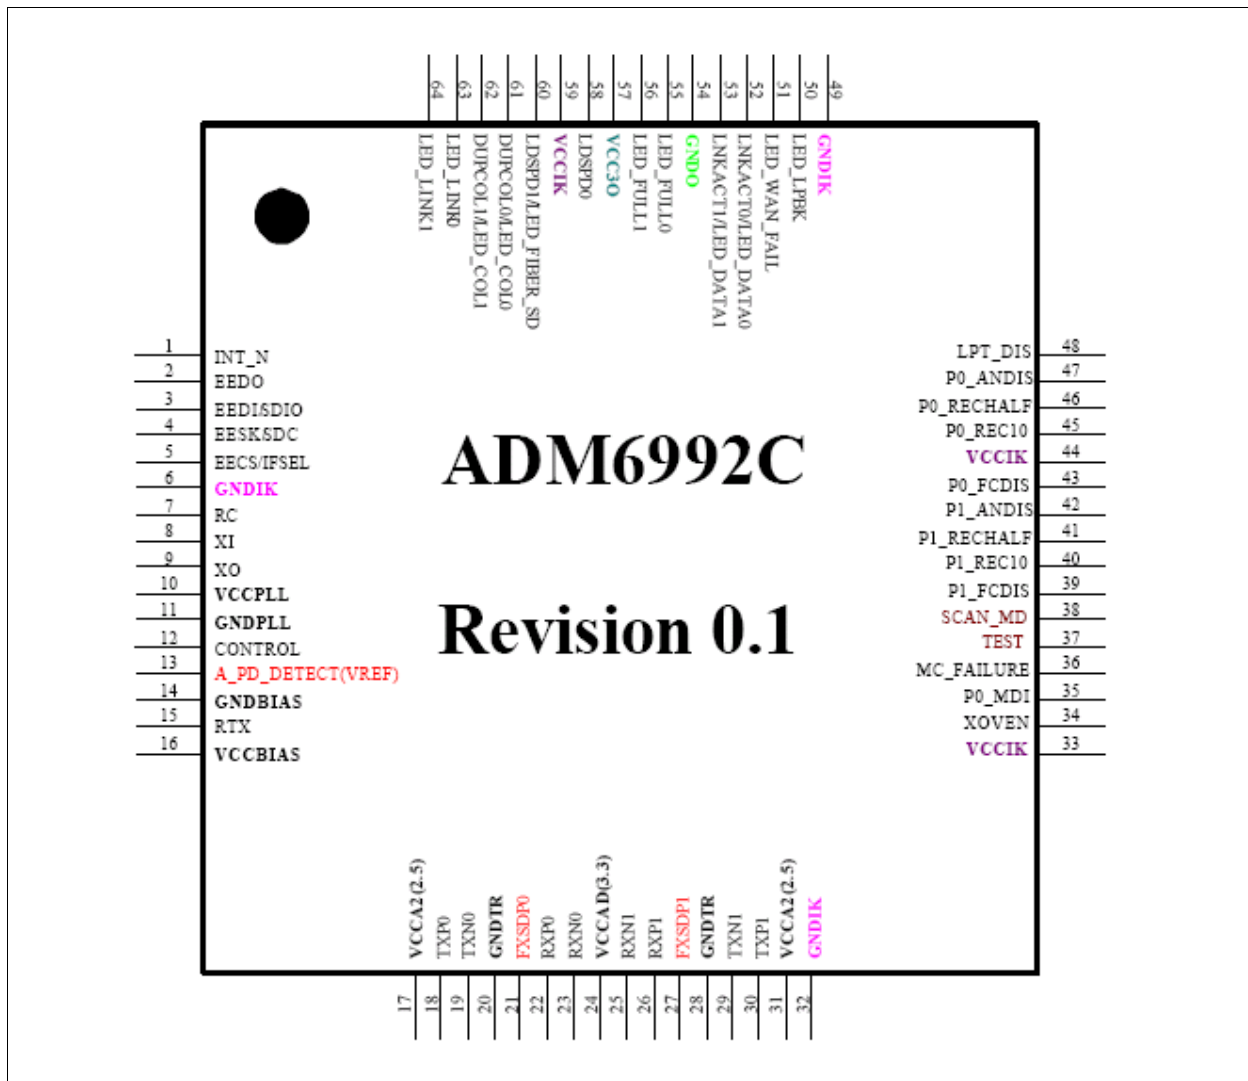

Figure 2 NINJA C/CX (ADM6992C/CX) 64-Pin Assignment
- Figure 2 NINJA C/CX (ADM6992C/CX) 64-Pin Assignment 10